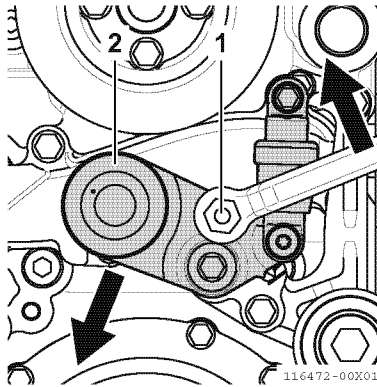
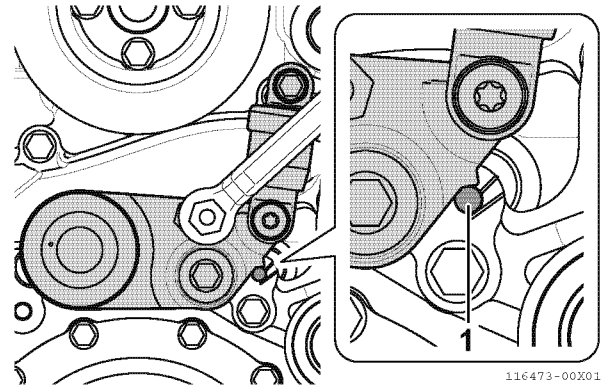
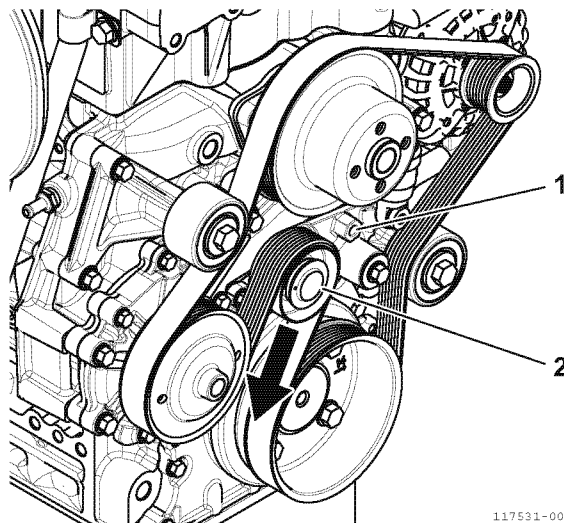

Fig.40-26
Fig.40-27
Fig.40-28
- 3 - Before installing the fan belt, use a ratchet wrench or similar tool on the nut (2, Fig.40-26) of the tensioner arm or (1, Fig.40-28). Apply torque in the counterclockwise direction and move the tension pulley (2, Fig.40-26) or (2, Fig.40-28) in the direction of the arrow. Insert the hexagonal bar wrench to the insertion hole on the back side of the tensioner arm (hole diameter: 5.9 mm) (1, Fig.40-27) to fasten the tensioner arm. When moving the tensioner arm in the direction of the arrow, take at least three seconds to do the task. Install the fan belt as described in Fig.40-28. Apply torque to the ratchet wrench to pull put the insertion tool that fastened the tensioner arm. Slowly put the tension pulley back to the original position to apply tension to the belt.